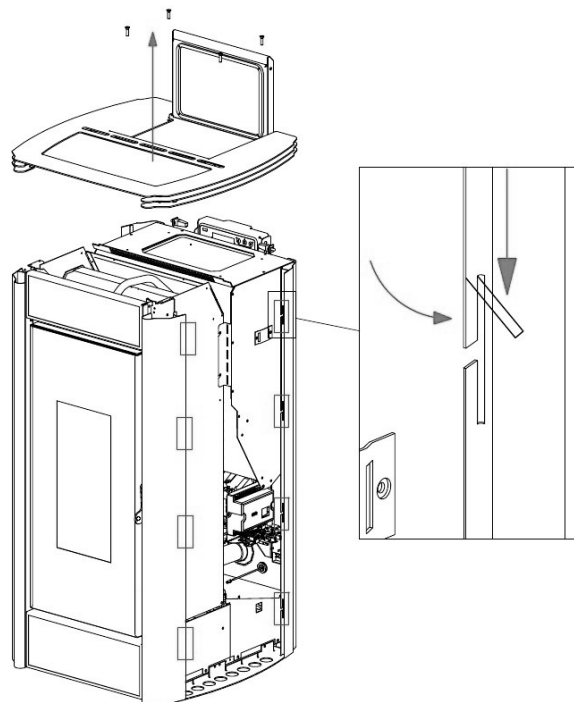

Fig. 34 - Fold flaps
- With your finger, fold the upper flaps which are located on the black profiles outwards (see **Fig. 34**).